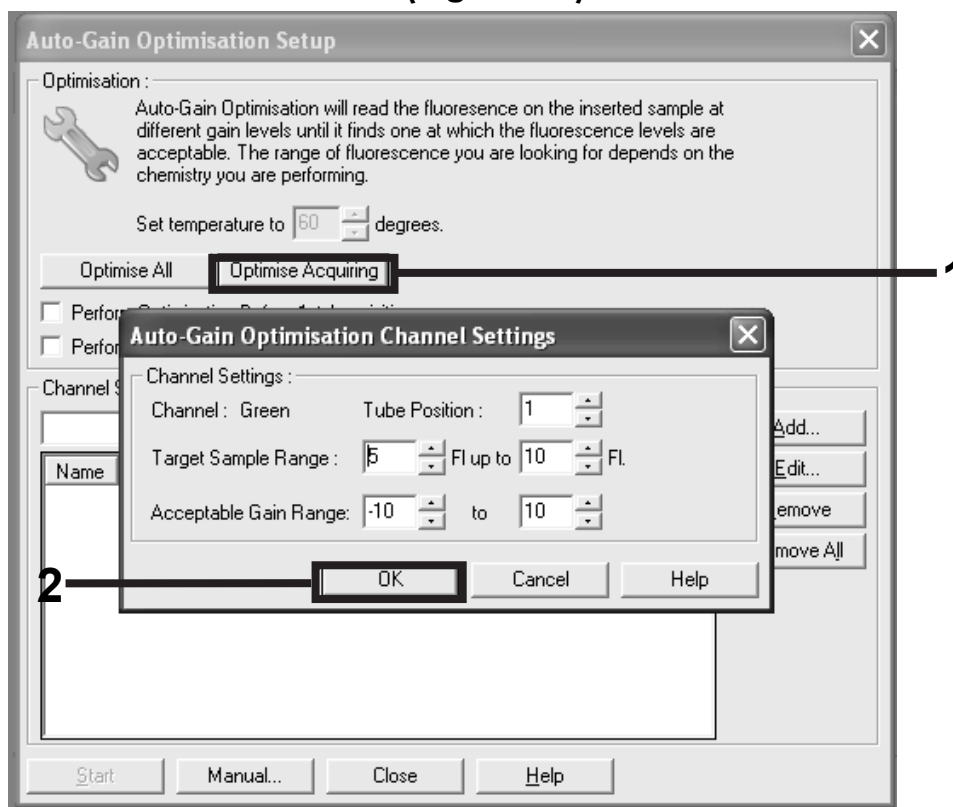

Figure 11. Auto-gain optimization for the green channel.
14. Click the “Optimise Acquiring” button. Channel settings are then displayed for each channel. Accept these default values by clicking “OK” for both channels (Figure 11).